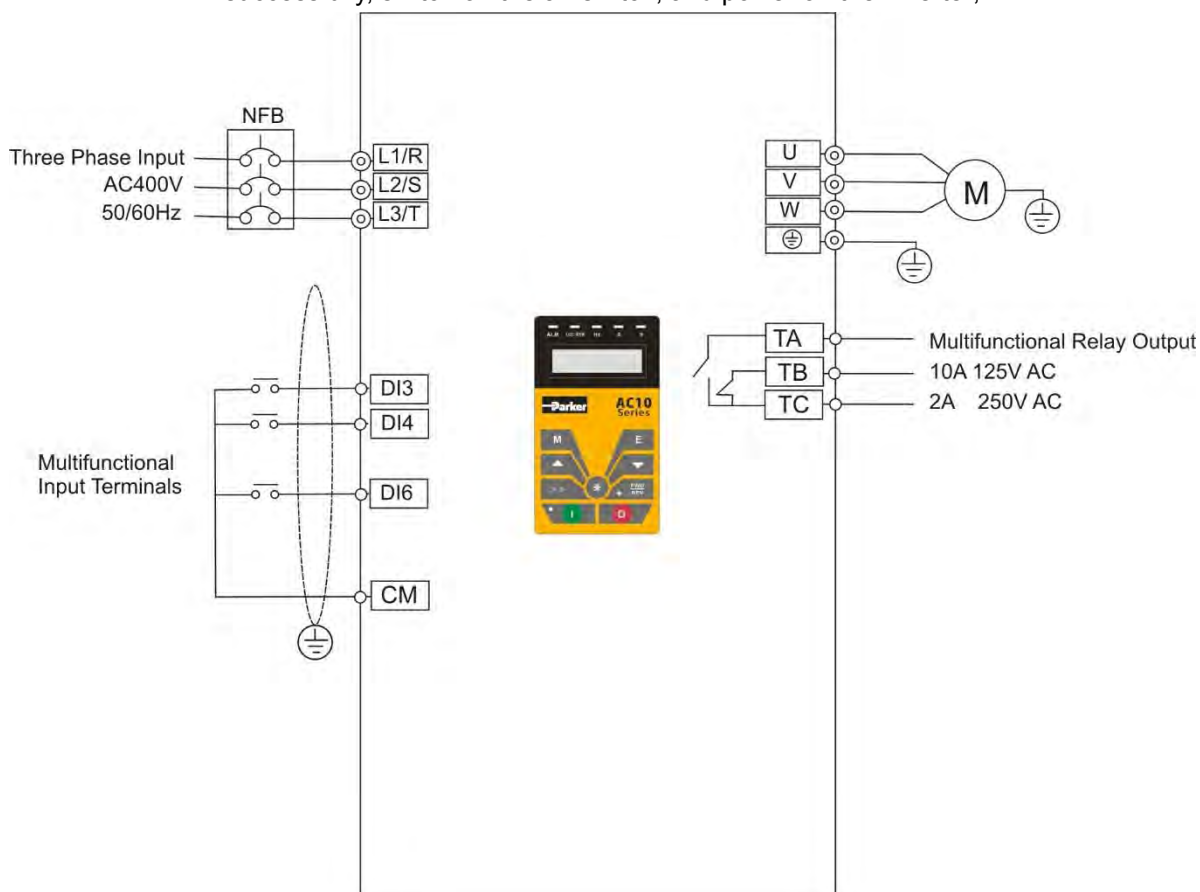

Figure 8-2 Wiring Diagram 2
i. Connect the wires in accordance with Figure 8-2. After having checked the wiring successfully, switch on the air switch, and power on the inverter;